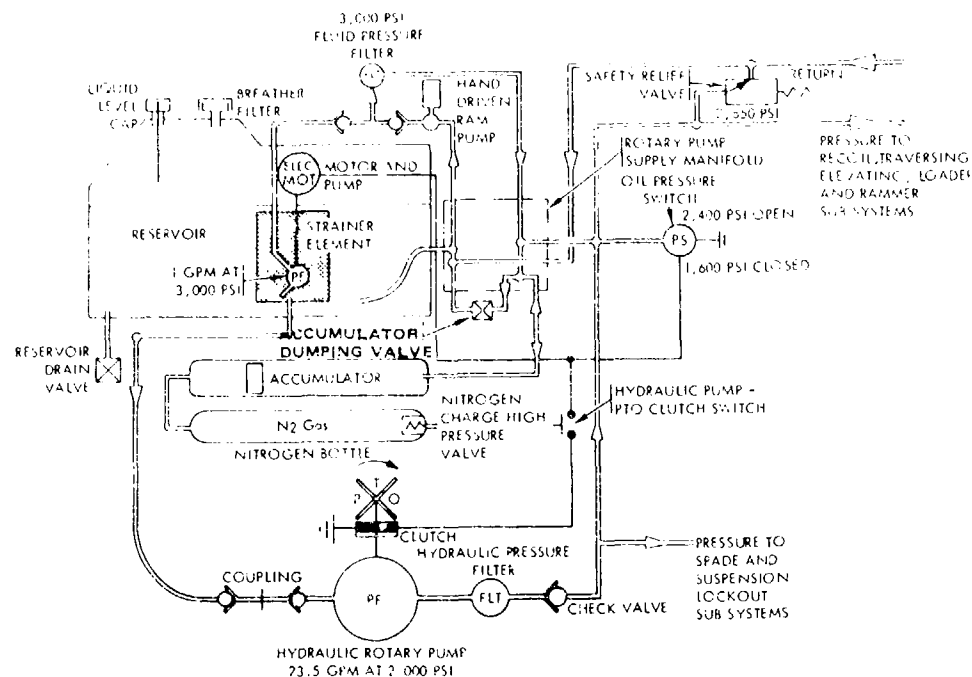

Figure 8-8. Hydraulic pressure system.
*b. Hydraulic system.* The hydraulic system supplies hydraulic power to operate various vehicle components (fig 8-8). Hydraulic oil pressure is provided by an electric motor-driven hydraulic pump, an engine-driven pump, or a hand-operated pump. The oil pressure is stabilized by an accumulator and is directed through lines and control valves to the suspension lock-out cylinders, spade cylinders, turret traversing system, cannon elevating system, loader and rammer mechanism, and recoil mechanism. A 27-gallon tank housed in the right trunnion wall provides a reservoir for the system oil supply.